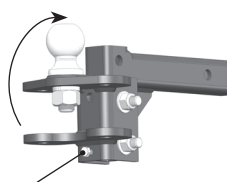

Figure 5
5. Use a wrench to tighten the angle set bolt until the spacer rivet is firmly against the shank. (Figure 5)